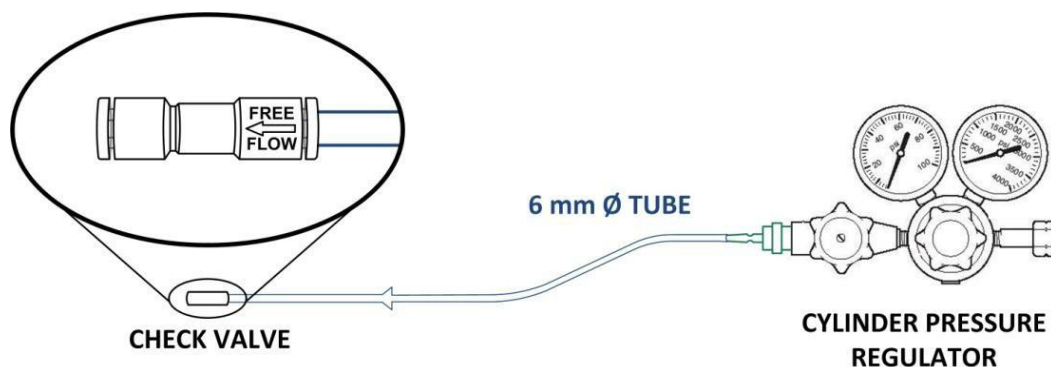

Figure 3-5
- 3. Check valves (Only for CO₂)** - Install the Check valves (provided in the package) along the gas line for each of the gas source in use. To do so, take the free end of the tube previously connected to the pressure regulator and insert it in the check valve through the push-in connector. Check valves allows the gas to flow through them in only one direction. Therefore, the check valves must be installed in the direction of flow sense, i.e. from the cylinder to the Gas blender (Figure 3-5). In case of different valves type use, please contact the MCQ INSTRUMENTS support center.